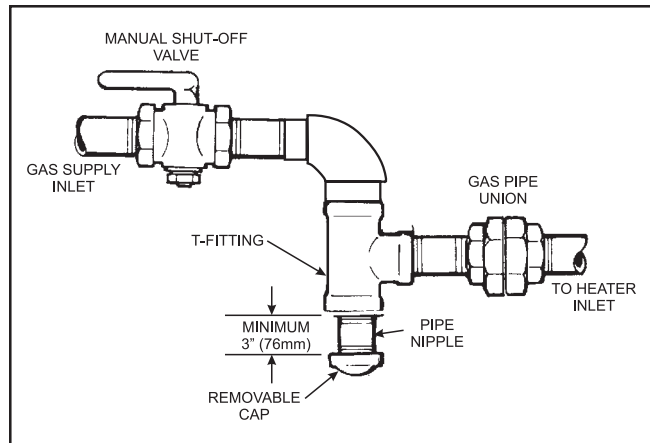

Figure 6. The proper design for a sediment trap/drip leg.
4. Install a sediment trap (drip leg) ahead of the gas controls (see Figure 6). Fit the trap with a threaded cap which can be removed for cleaning.